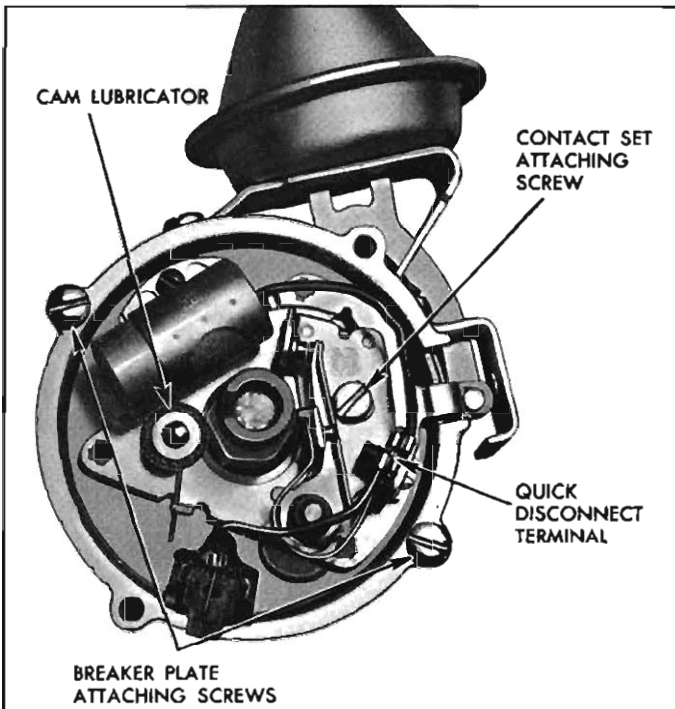

Fig. 8-3—Breaker Plate and Attaching Parts
Refer to Figures 8-3 through 8-5
3. Pull primary and condenser lead wires from contact point quick-disconnect terminal (fig. 8-3).
4. Remove contact set attaching screw, lift contact point set from breaker plate (fig. 8-3).
10. Rotate cam lubricator 90° (fig. 8-3).
Refer to Figure 8-3
3. Scratch a realignment mark on distributor in line with rotor segment (fig. 8-3).
- Remove breaker plate attaching screws, remove breaker plate from distributor housing (fig. 8-3).
5. Position breaker plate assembly in housing and attach retaining screws (see fig. 8-3).